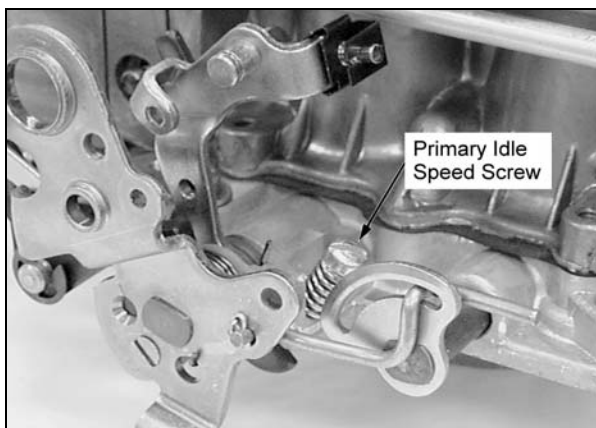

Figure 9
5. If the idle speed is slower than recommended, turn the screw clockwise to speed up the rpm. If the idle speed is too fast, turn the idle screw clockwise to slow down. This adjustment should be made to both the primary and secondary screws in equal amounts, so that the throttle plates are opened the same amount. See Figures 9 and 10.